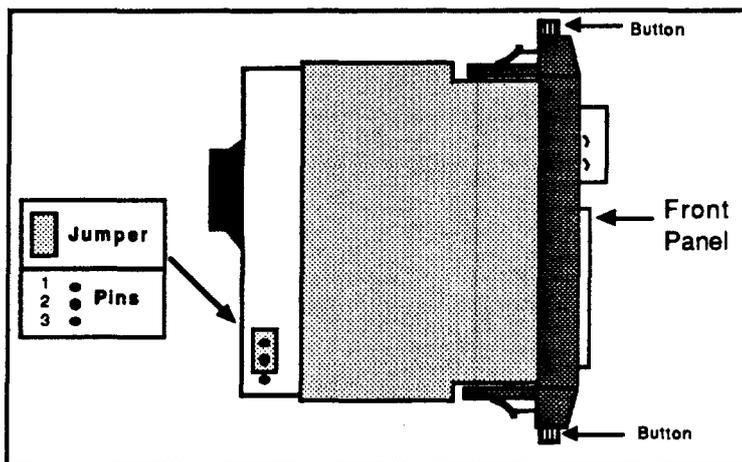

Figure 2-2. Location of Jumper for Standard Card Cage
- In a standard rack system, the jumper (refer to Figure 2-2) must be placed over pins 1 and 2. (**This is the default configuration.**)
- In an extended PLC cage, the jumper (refer to Figure 2-2) must be placed over pins 2 and 3. The jumper disables the 1XX (octal) addresses on the card.